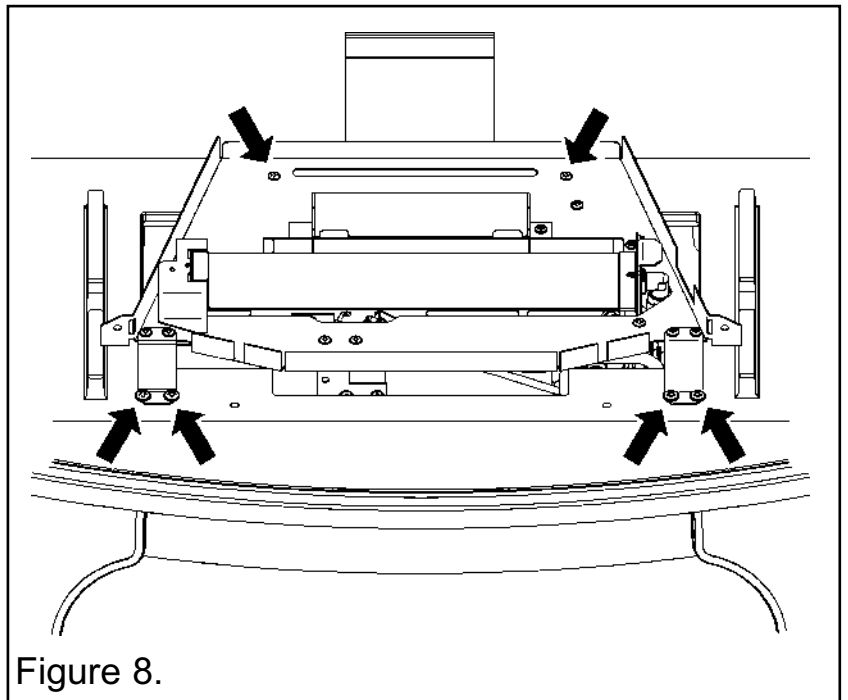

Figure 8.
5. The burner assembly should be found assembled inside the stove body as in figure 8.